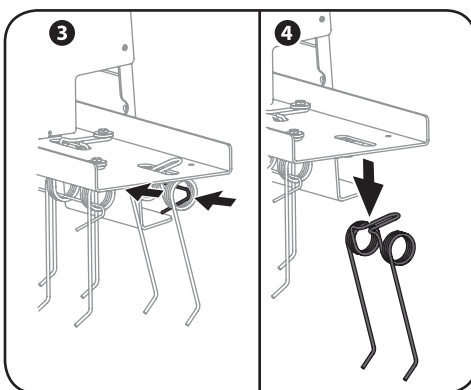

Figure 5-2
3. Pinch the end of the retention wire and slide off the spring tine to remove it. See 3 in Figure 5-2.
4. Carefully ease the spring tine backward (See 3 in Figure 5-2), and slide the spring tine downward out of the dethatcher tray. See 4 in Figure 5-2.